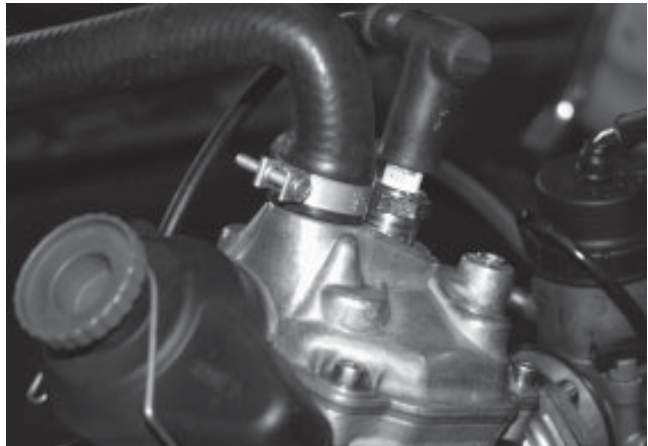

Fig. 106
- ⇒ First connect the radiator hose to the connection support on the cylinder head cover. Then tighten the clamp to provide water tightness with the recessed head screw, as shown in Fig. 106.